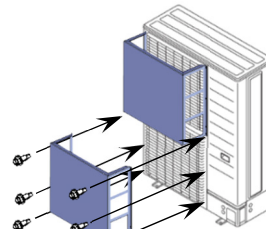

Figure 9
(4) Install the wind baffle on the lower fan in the same way as the upper fan as shown in Figure 9.